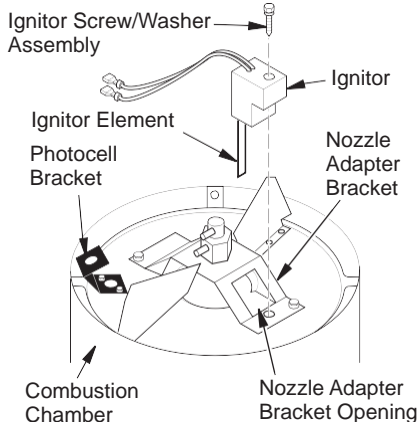
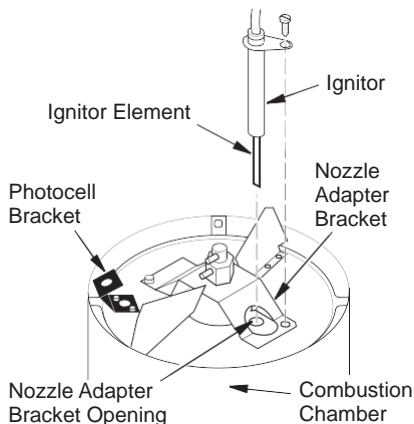

Figure 15 - Ignitor HA1000 Replacement
Figure 16 - Ignitor HA1100 Replacement
- Remove combustion chamber. Stand combustion chamber on end with nozzle adapter bracket on top (see Figure 15, page 12).
9. Carefully guide ignitor into opening in nozzle adapter bracket. Do not strike ignitor element. Attach ignitor to nozzle adapter bracket with screw using a 1/4" nut driver for models using ignitor HA1000 (see Figure 15) or 5/16" nut driver for models using HA1100 ignitor (see Figure 16). Torque .90 to 1.69 N-m (8 to 15 in-lbs) Do not over torque.